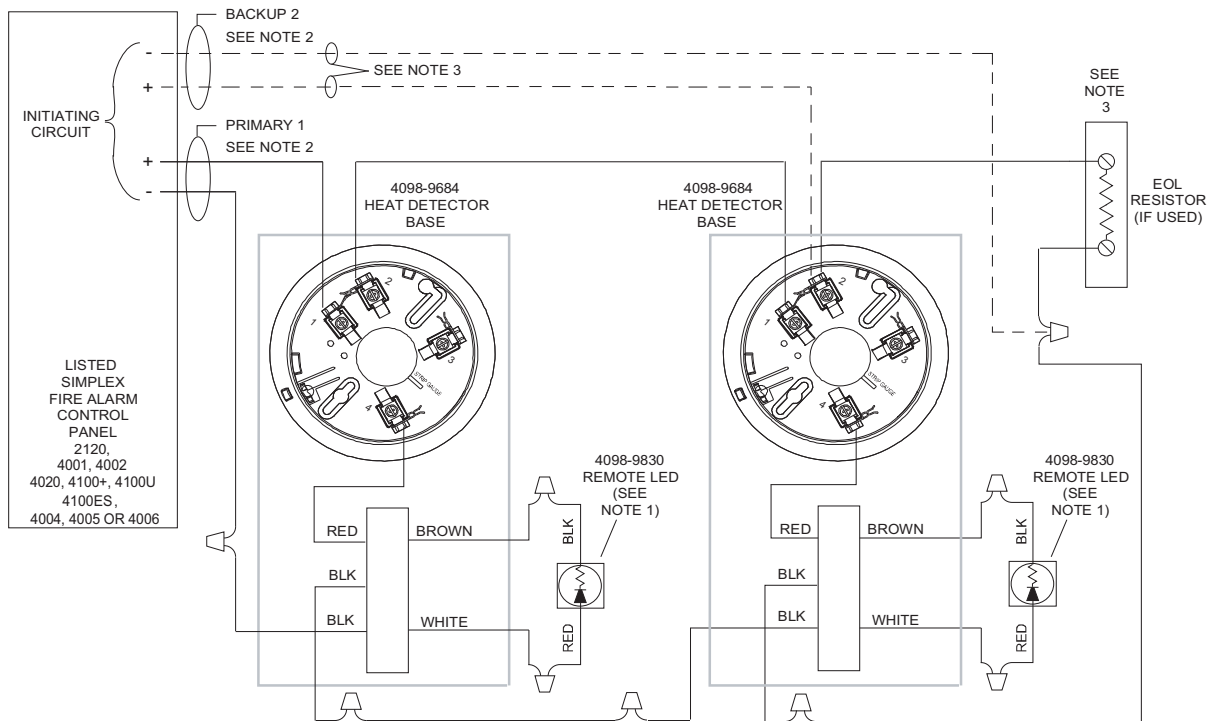

Figure 2-6. 4098-9684 Heat Detector LED Base Connections for Style B or D Initiating Circuits
1. If used, 4098-9830 Remote LED is polarized. Refer to Figure 2-6 to wire remote LED to the Heat Detector; observe color-coded wiring.
1. If used, 4098-9830 remote LED is polarized; refer to Figure 2-6 to wire remote LED to a heat detector, observe color-coded wiring.
1. If used, 4098-9830 remote LED is polarized, observe color-coded wiring. (Refer to Figure 2-6 to wire remote LED to heat detector.)